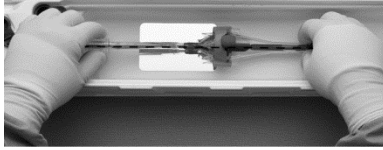

Figure 33
7. Insert the distal catheter tip into the catheter tip guide tube (Figure 33).